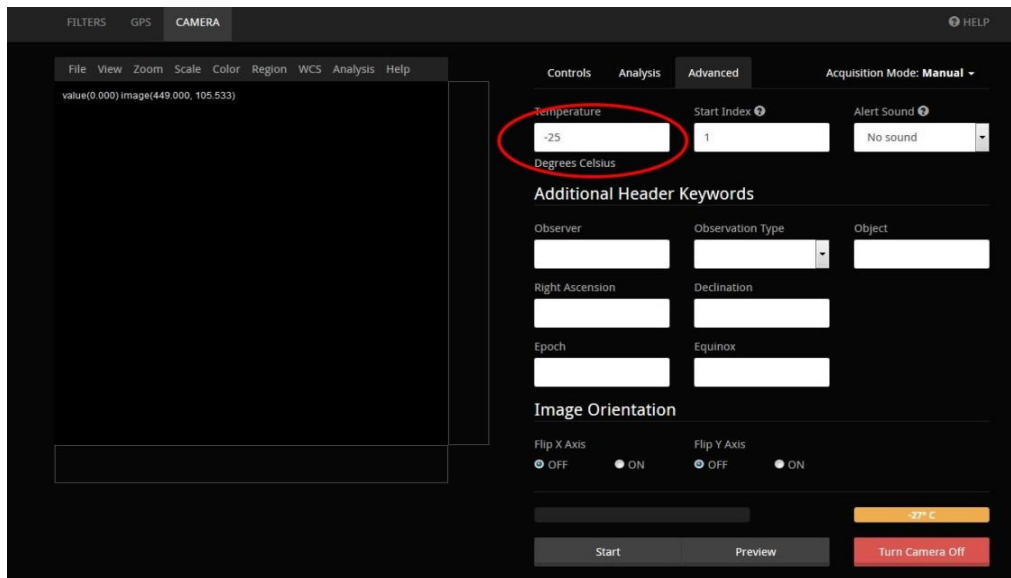

Figure 7: "Advanced" tab GUI
- Click on the “Advanced” Tab. The “advanced” tab GUI should appear – see Figure 7.
- To avoid unnecessary stress to the thermoelectric cooler, click on the “Set Temperature” box (Figure 7) and change the set point to -25°C. Check that the temperature settles at the new set point. Note that the servo seems to overshoot quite a lot. Once at the set point, the button background colour changes to green. This can take a few minutes . . .